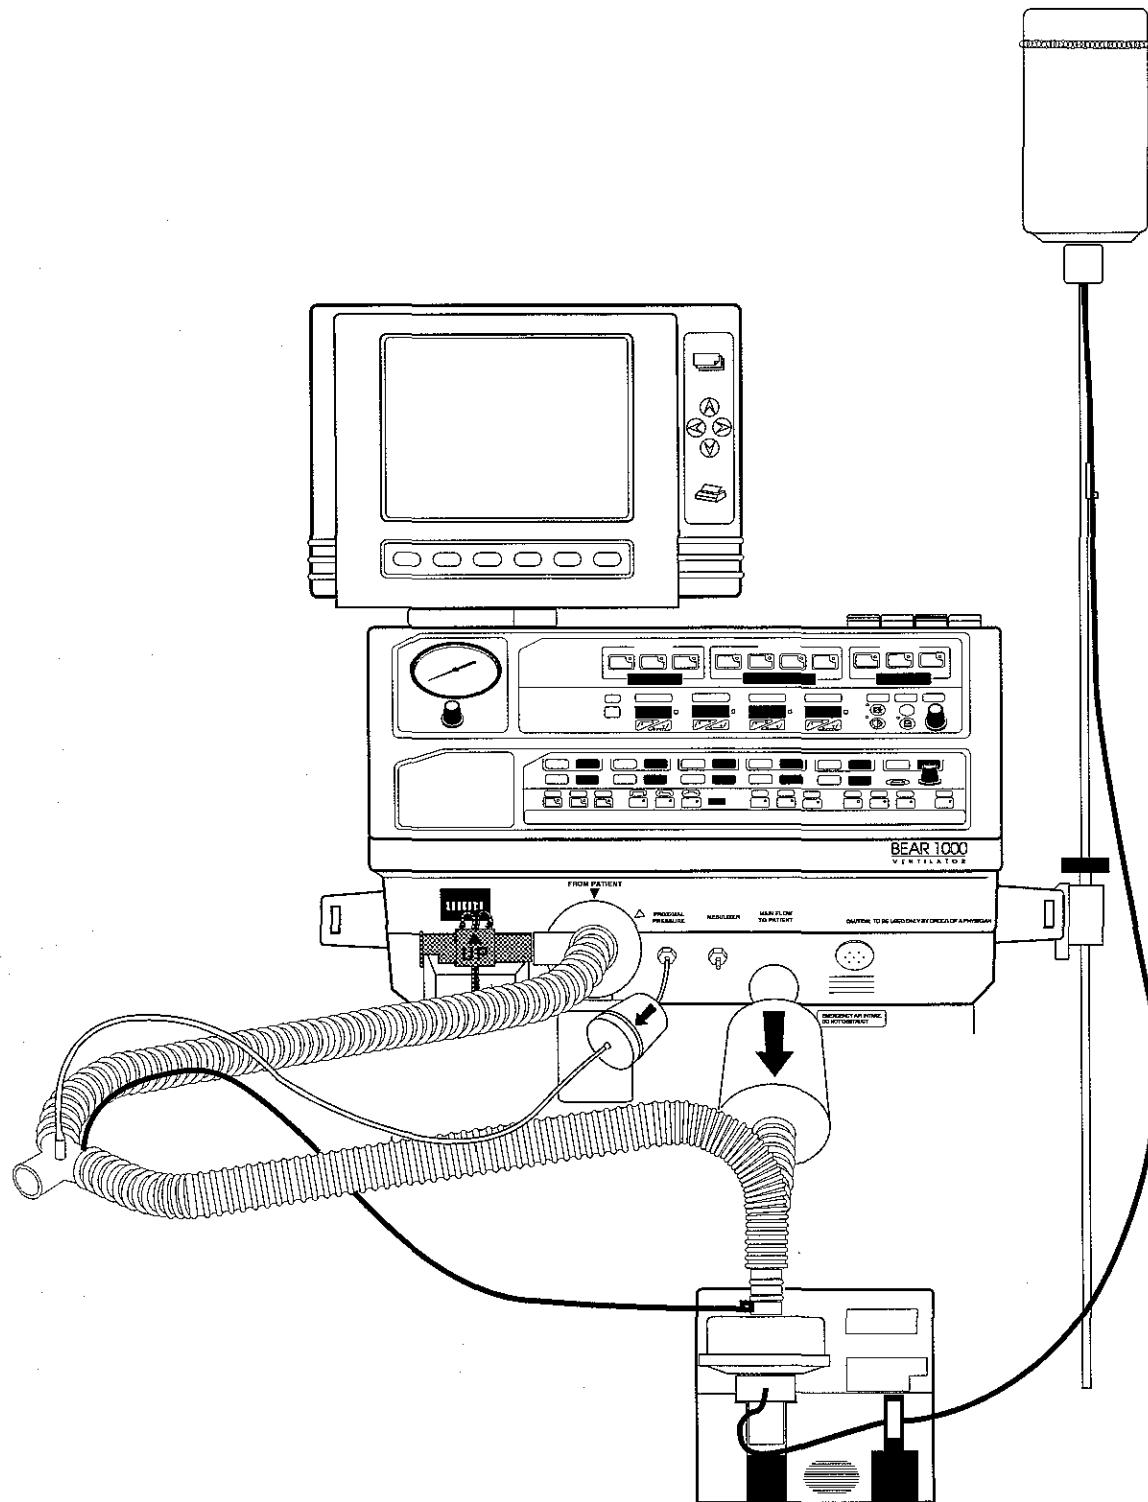
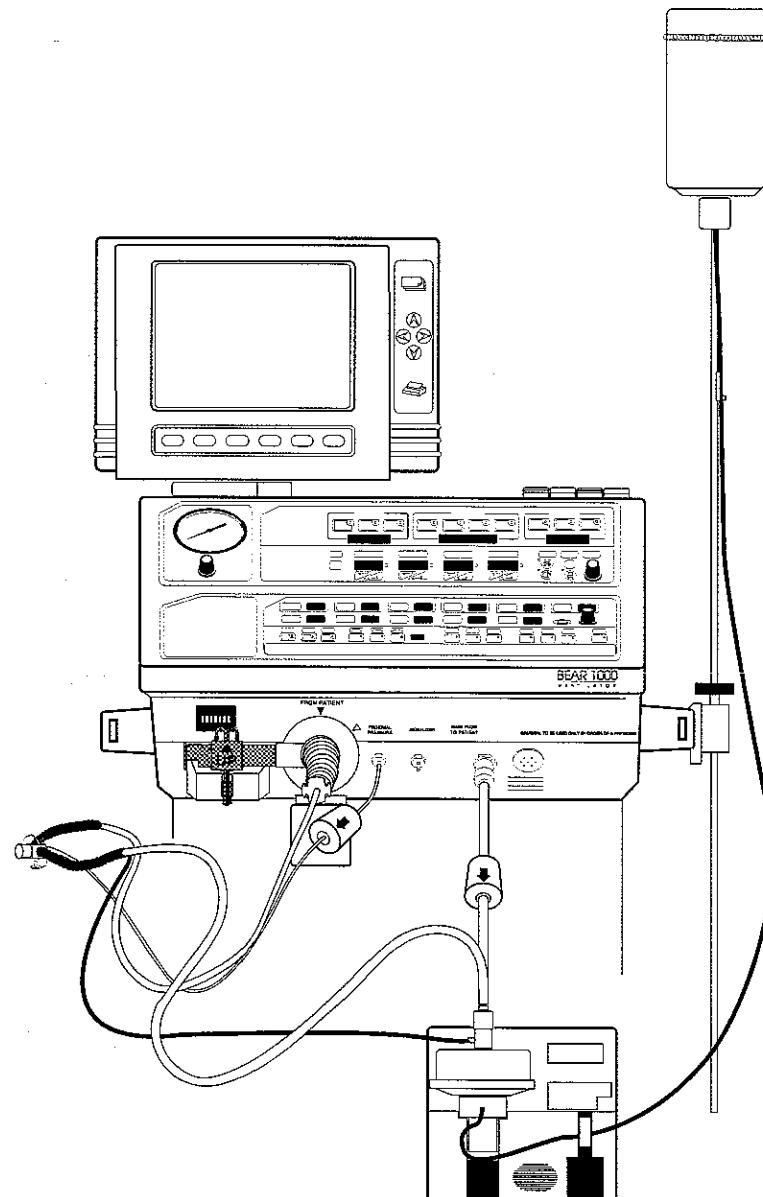

Figure 3-1 • Adult Circuit Assembly
Figure 3-2 • Pediatric Circuit Assembly
Both adult and pediatric circuits can be used on your BEAR® 1000 Ventilator. Adult circuit assembly is shown in Figure 3-1, and that of a pediatric circuit in Figure 3-2.
1. Install an Adult Breathing Circuit onto the ventilator (see Fig. 3-1) and attach a Manley Test Lung (P/N 50012-20102) or equivalent onto the patient circuit.